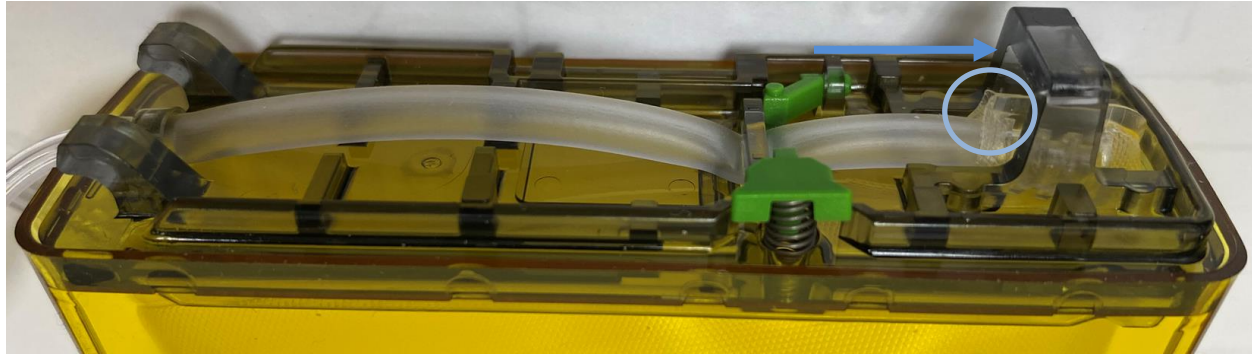

Figure 1. CADD Reservoir
- Alternatively, the user can remove the reservoir from the pump and push the plastic ridge highlighted in the circle below towards the arch on the reservoir as indicated by the arrow in Figure 1.